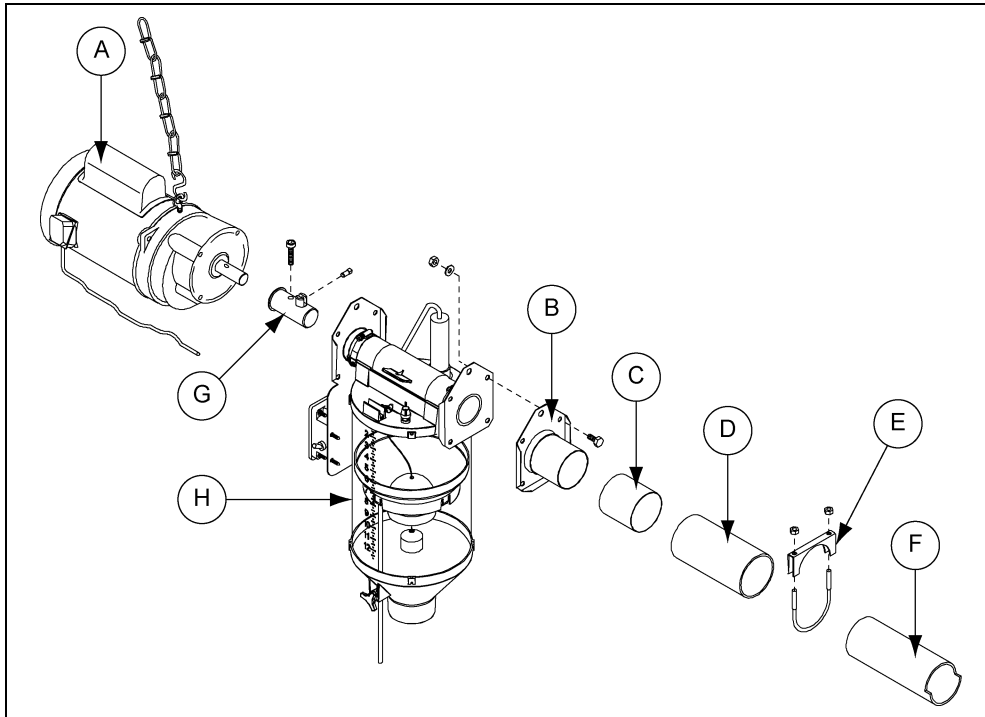

Figure 3G Control Unit with Model 300 Tubing
1. Bolt the Accu-Drop control unit to the Model 300 tube anchor plate weldment using four (4) 5/16" x 3/4" bolts, 5/16" washers and 5/16" nuts. (See Figure 3G.)